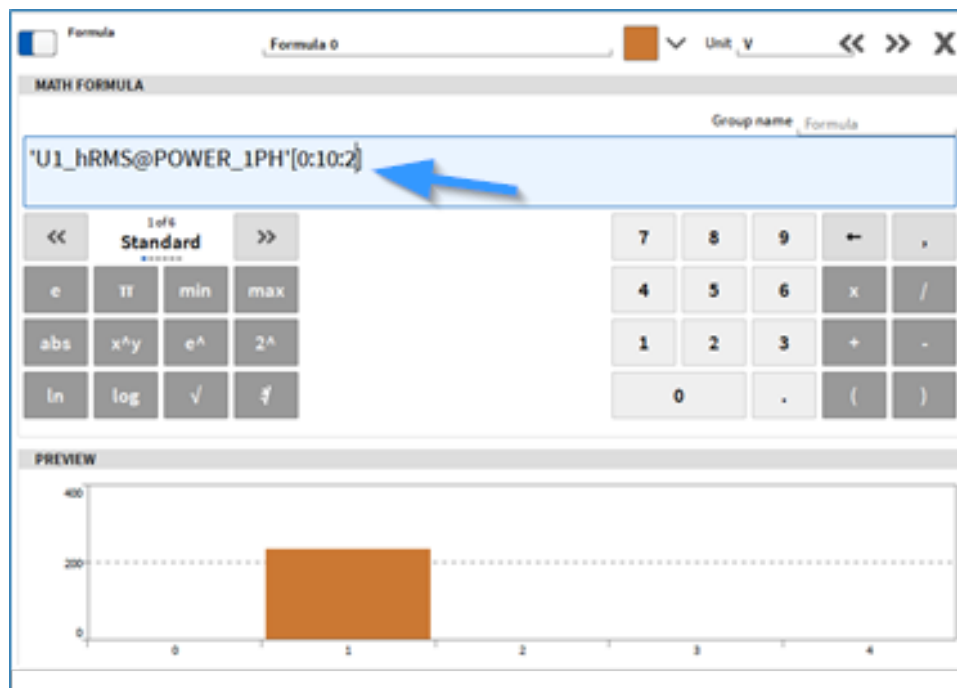

Fig. 7.76: Extraction of several adjacent elements with step size between the elements to be extracted
- Extraction of several adjacent elements with a step size between the elements to be extracted (see Fig. 7.76). The output will be an array channel with the number of extracted element as new dimension.